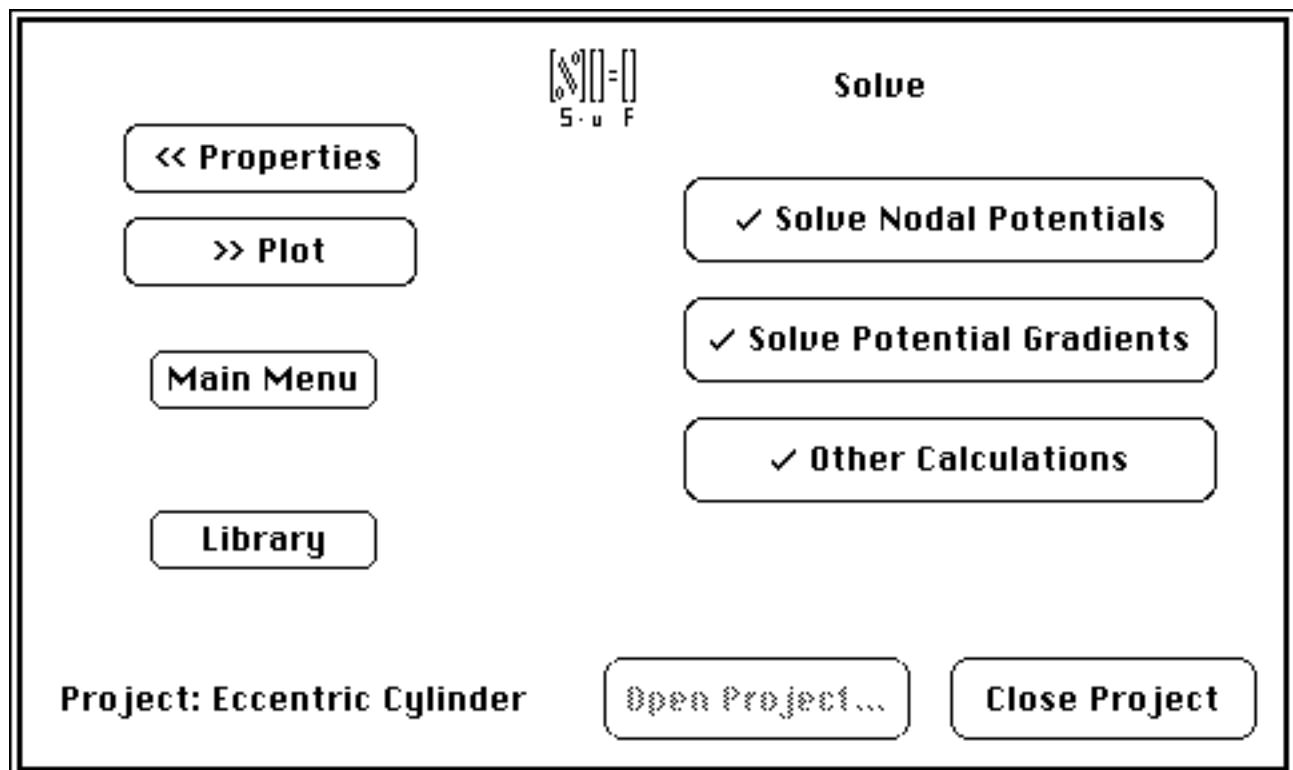

Fig 2.36 Solve module menu
- Select Solve Potential (Temp.) Gradients (Fig 2.36).
- Select Other Calculations (Fig 2.36).
- Select Plot (Fig 2.36).